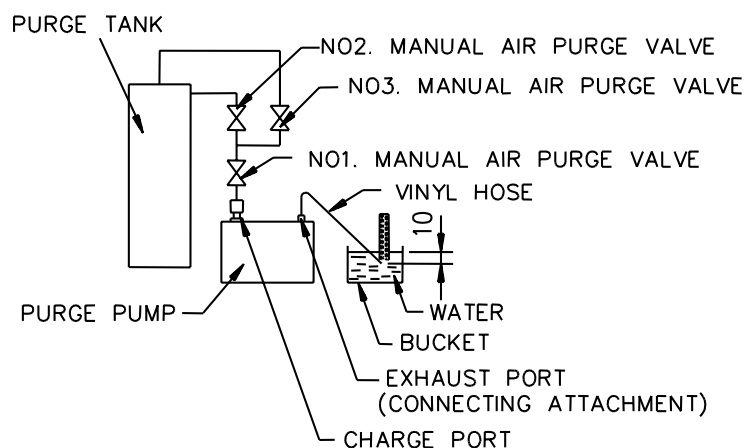

Fig. 7-14.
(1) Perform air-purging until the inside pressure of the machine reaches the allowable degree of vacuum, and then continue air-purging at least for one hour.
(2) Make sure that the attained vacuum of the purge pump is under 4mmHg.
(3) Remove the exhaust port cap of the purge pump, and Install the connecting attachment to the exhaust port of purge pump and fix the vinyl hose to the connecting attachment as shown Fig. 7-14.
(4) Manual air-purge valves(Diaphragm valves) should be set as follows